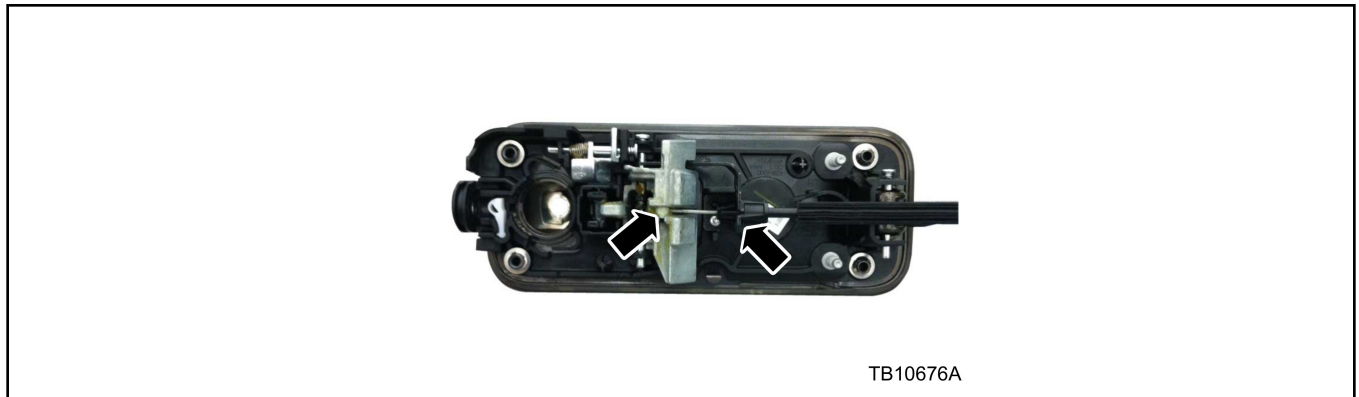

Figure 1 - Article 15-0052
- a. On all doors, verify the latch release cable is properly seated and the cable end is properly installed on to the outer handle. (Figure 1)